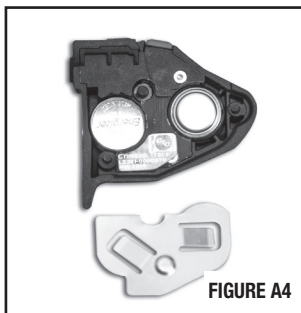

FIGURE A4
- Remove the contact cover from the back of the Crimson Trace® Laser housing to gain access to the batteries (FIGURE A4).
- Install two (2) 357 silver oxide batteries as shown (FIGURE A4). Proper battery orientation is clearly marked on the battery pocket of the Crimson Trace® Laser.